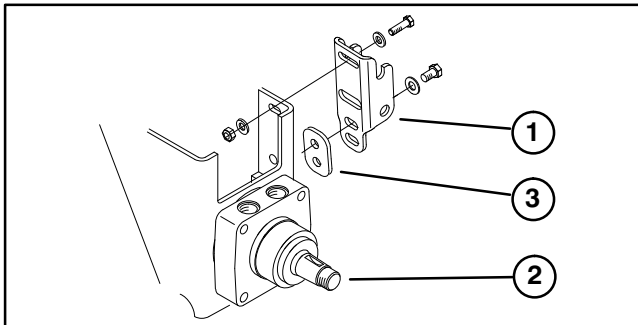

Figure 6
MOUNT BLOWER (Fig. 6–8)
A. On Sand Pro 2020/3020 – Mount top of receiver bracket to frame with a 3/8–16 x 1.50" lg. capscrew, (2) .40 I.D. x .81 O.D. flat washers and locknut. Mount bottom of receiver bracket to frame with a 1/2–13 x .875" lg. capscrews and (2) .56 I.D. x 1.063 O.D. flat washers. Position components as shown in figure 6.
Note: Spacer, shown in figure 6, is also required if machine is equipped with fenders.